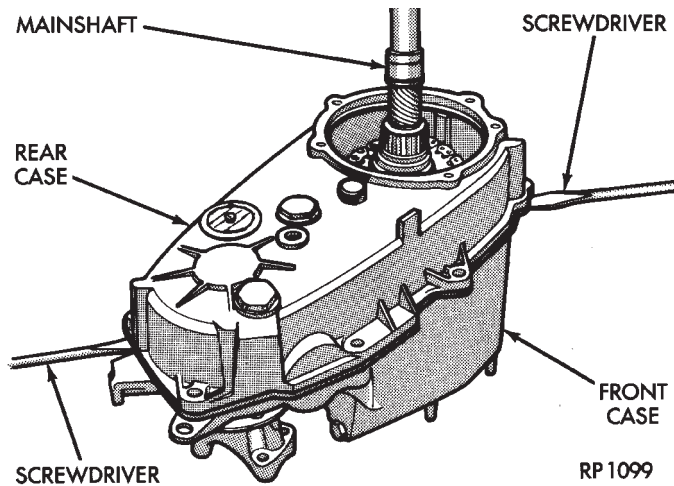

Fig. 19 Loosening/Removing Rear case
- (13) Remove rear case from front case (Fig. 19). Insert screwdrivers into slots cast into each end of case. Then pry upward to break sealer bead and remove rear case.